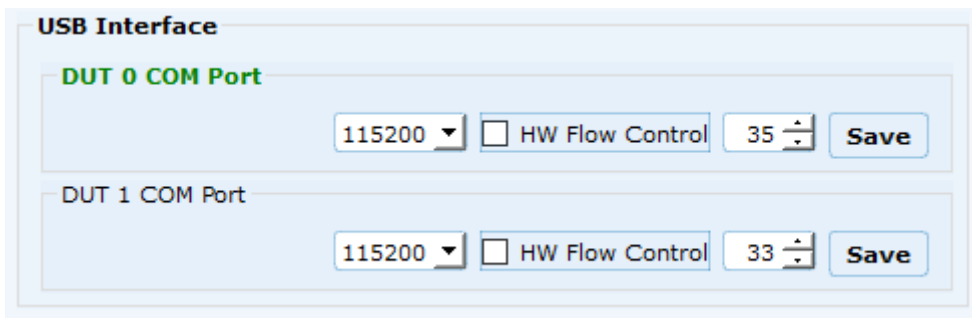

Figure 18. Virtual comport setting in RTX2254 GUI (Pro-DK connected to DUT0)
- RS232 COM port: the virtual COM port, for example, COM35 (Figure 18).
- Baud Rate: 115200 (Figure 18).
- HW Flow Control: None (Figure 18).